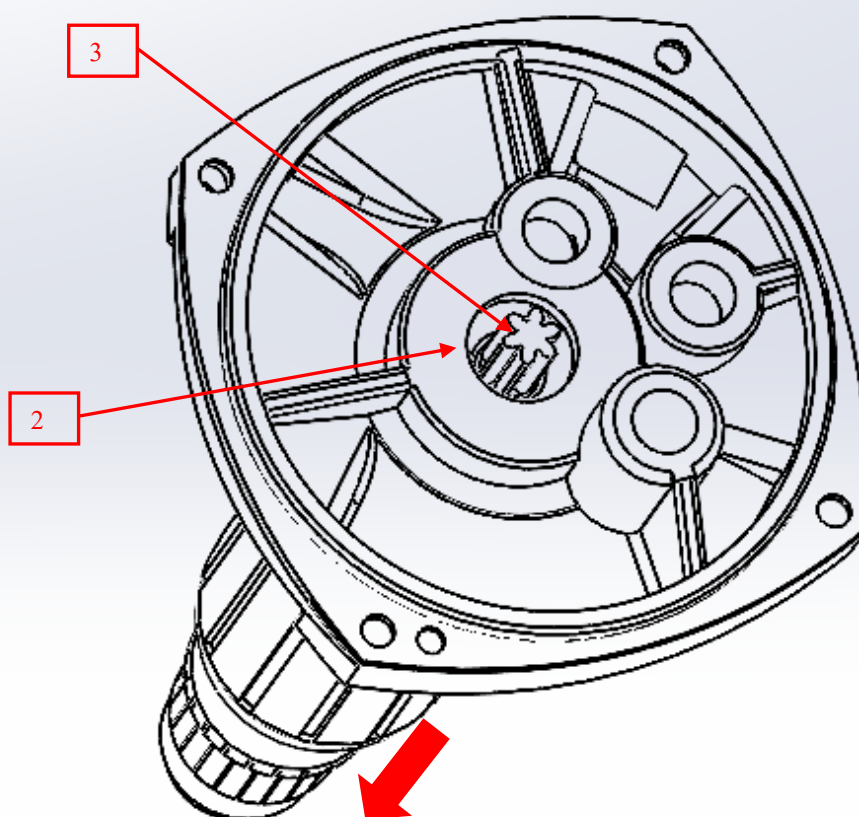

Figure 2.14
- 2.5.6 Remove the seeger ring as in figure 2.14 – position 2;
- 2.5.7 Gently tap on position 3 (figure 2.14) and proceed with the removal of the armature by pulling in the direction of the arrow.